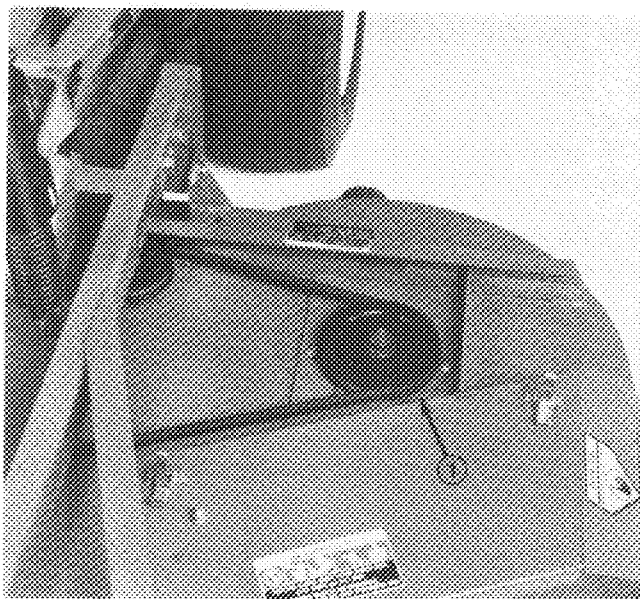

Figure 38
5. Remove nut and flatwasher retaining pulley (Fig. 38) on spindle shaft. Pull pulley off shaft.